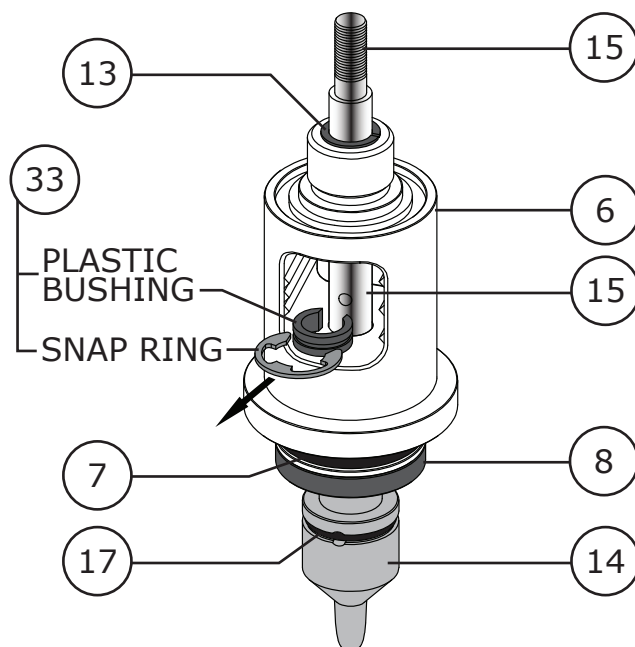

Figure 22 Travel Indicator Removal
- 5** Remove the travel indicator (Key 33) by removing the metal snap ring from the plastic bushing and then removing the plastic bushing from the stem (Key 15). Refer to Figure 22.